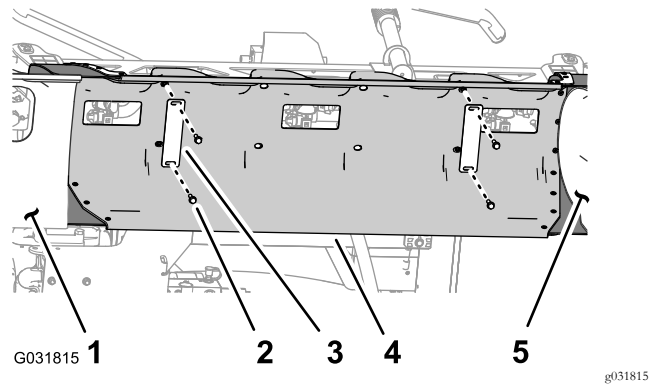

Figure 19
1. While supporting the center section cover (11–nozzle), remove the 4 flange-head bolts (5/16 x 1-1/4 inches) and 2 cover straps that secure the cover to the cover-support bracket (Figure 19).